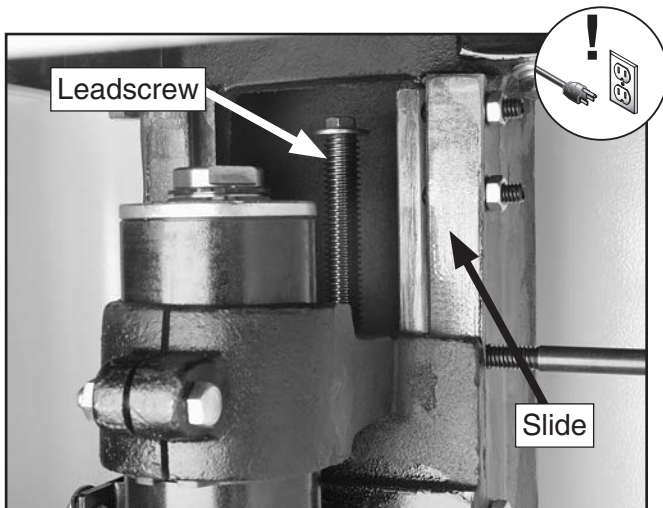

Figure 68. Spindle slide and leadscrew.
3. Use the spindle height handwheel to lower the spindle all the way, then access the elevation assembly through the rear of the cabinet (see **Figure 68**).